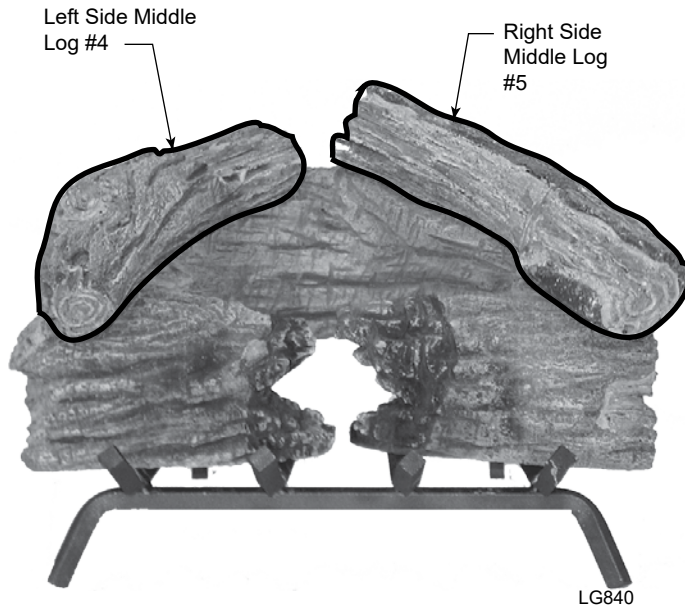

Figure 20 -
5. Place left side middle log #4 as shown. *Figure 20*
6. Place right side middle log (#5). *Figure 20*